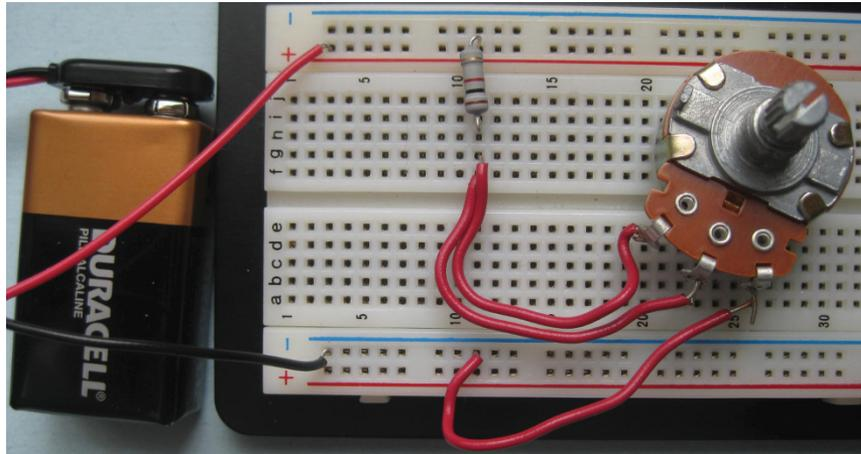

FIGURE 6-5:
3. Build the circuit using Figure 6-5 as your guide.